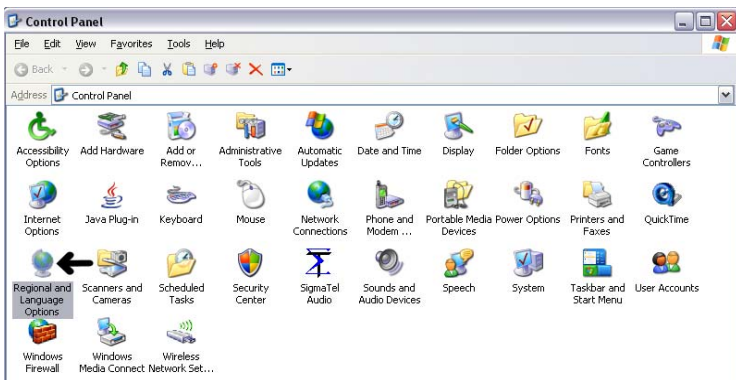

Figure 1 Windows Control Panel
- 1 Open the Windows Control Panel (Figure 1).